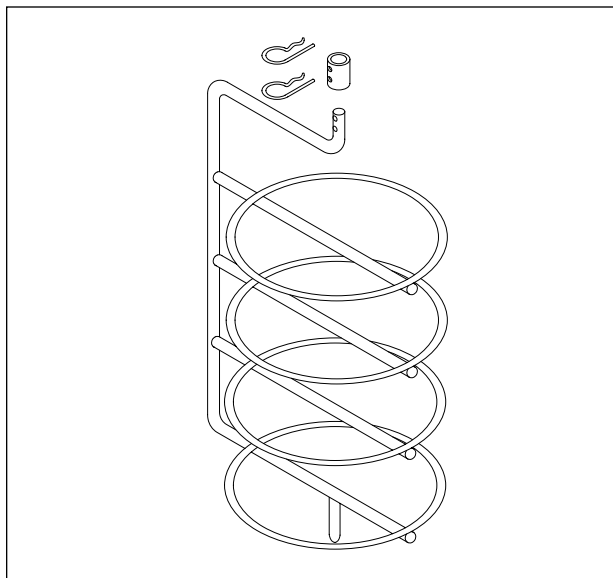

Figure 8. Removing Motorized Display Racks
2. Remove the two (2) pins from the rotating rack coupling located at the top of the rack inside the cabinet. See Figure 8.